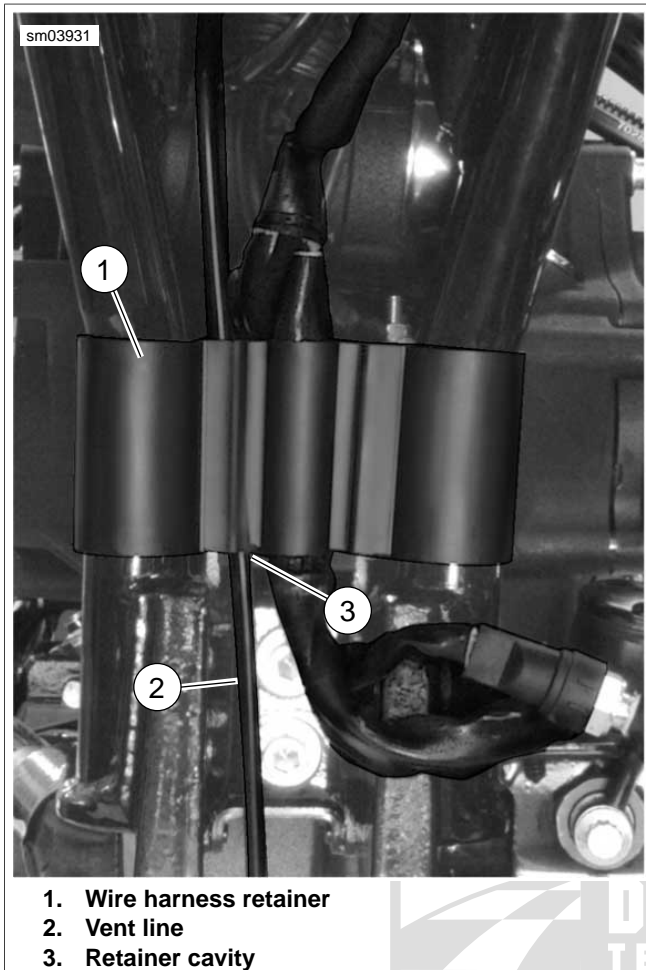

Figure 2-114. Harness Retainer
See Figure 2-114. Route the sensor harness in the same retainer cavity (3) as the vent tube (2).